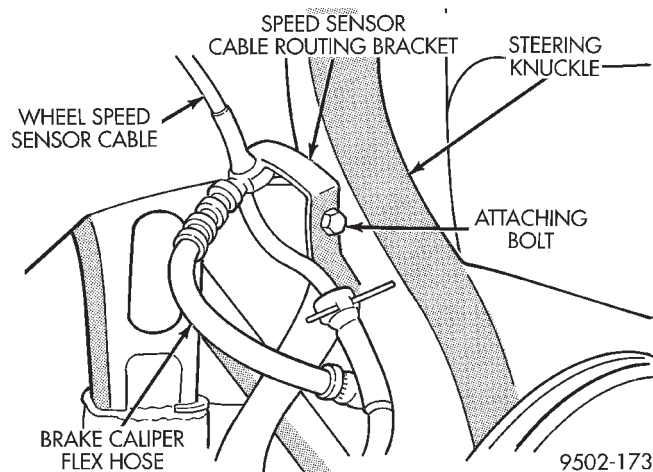

Fig. 9 Wheel Speed Sensor Cable RoutingBracket
(11) If equipped with antilock brakes, remove the speed sensor cable routing bracket from the steering knuckle (Fig. 9).